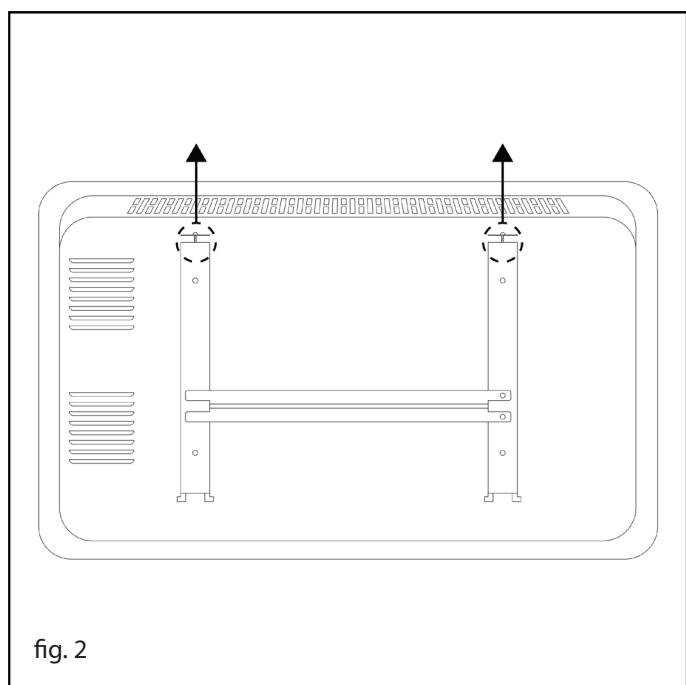

fig. 2
- Remove the bracket from the heater (see fig. 2) by loosening the screws at the top of the bracket.